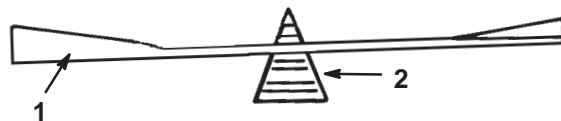

Figure 31
2. Check the balance of the blade by putting it on a blade balancer (Fig. 31).